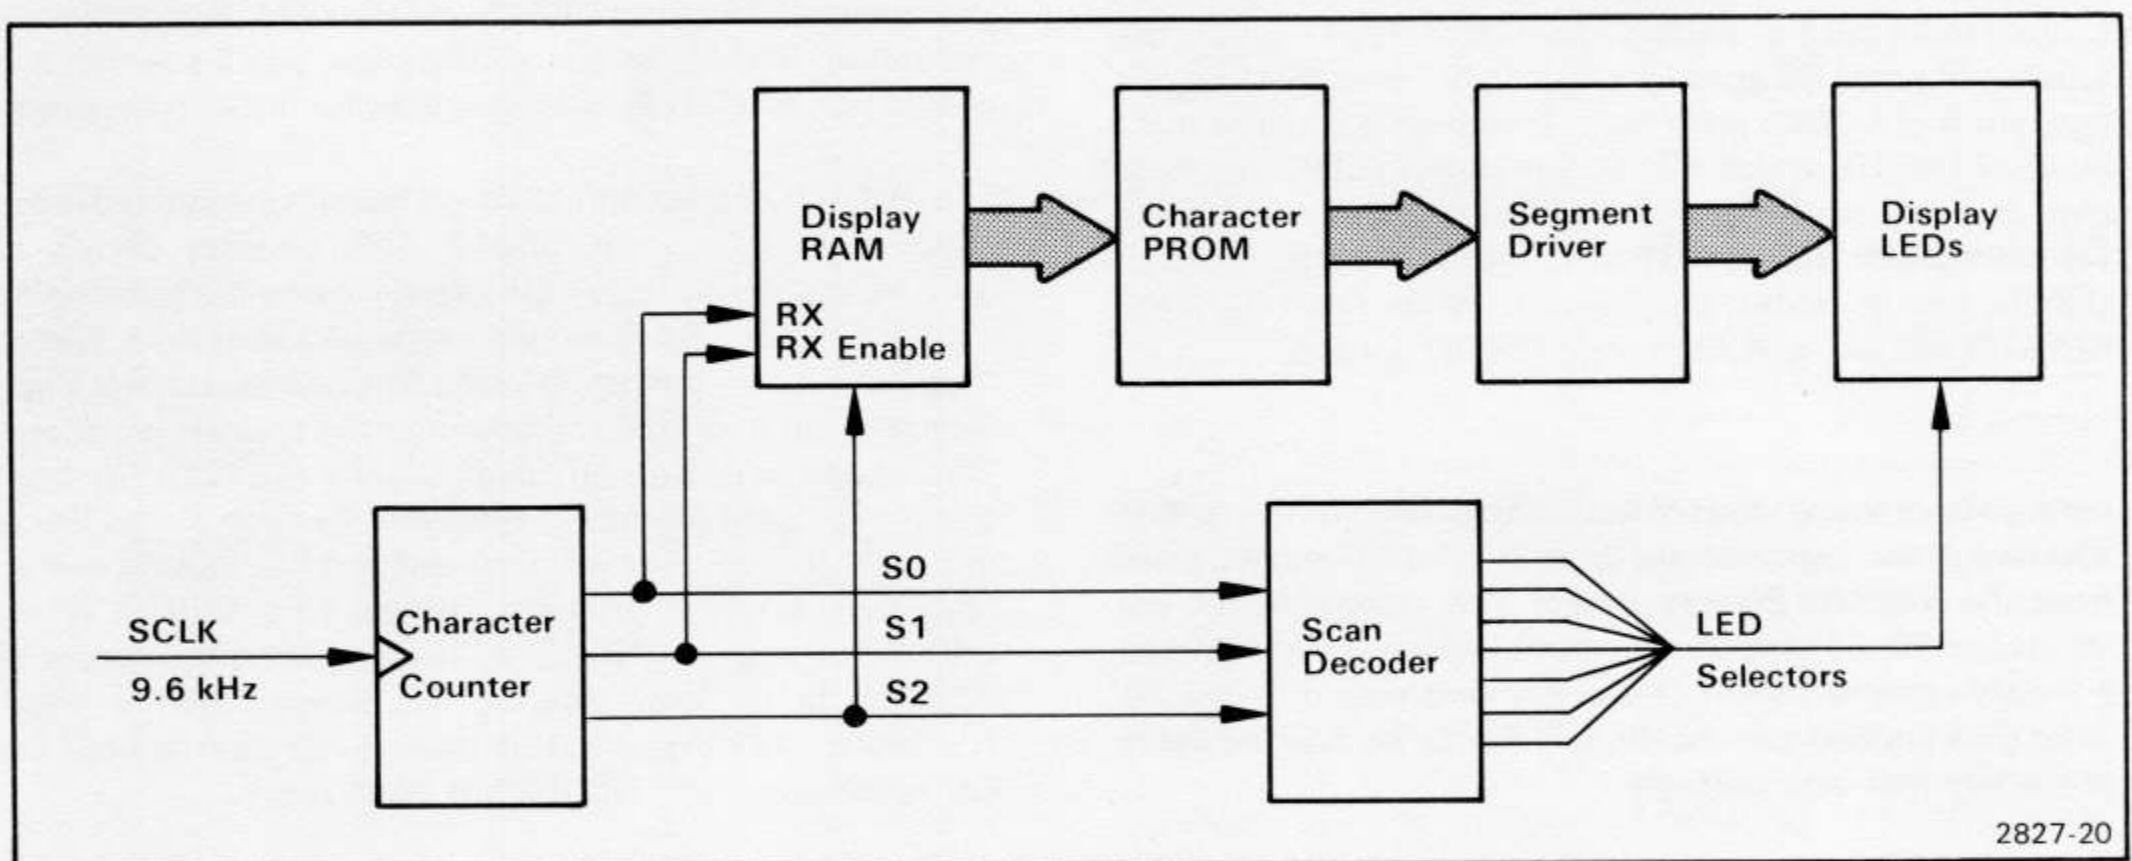

Fig. 5-10. MicroLab I Display Block Diagram.
**Reading the Display RAM.** As we said before, the personality card cannot read what is written into Display RAM. What does read Display RAM is the Character PROM. Of course, this isn't exactly true — PROM certainly can't read RAM. But the result is about the same. The Display RAM contents are fed to the address inputs of the Character PROM, where they are converted into information suitable for 7-segment LEDs. There are eight 7-segment LED's in the MicroLab I display. Since the Character PROM can only put information on its output lines for one character at a time, another device must turn on the anode of each LED in the proper sequence. That device is the Character Counter, U3010. Let's look at how the 5-bit segment word gets to the LEDs. Refer to Fig. 5-10 and schematics 4 and 6.